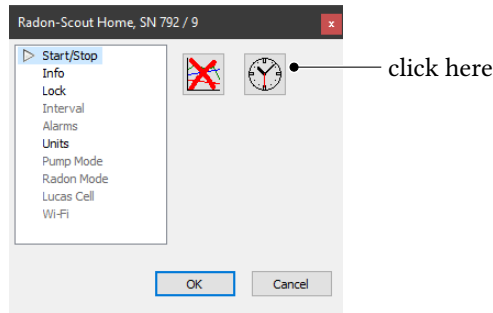

Figure 3.3.: Synchronization of the clock of the measuring instrument with the PC time
6. Always check the clock of the measuring instrument after each battery change and set it if necessary (see Figure 3.3)!